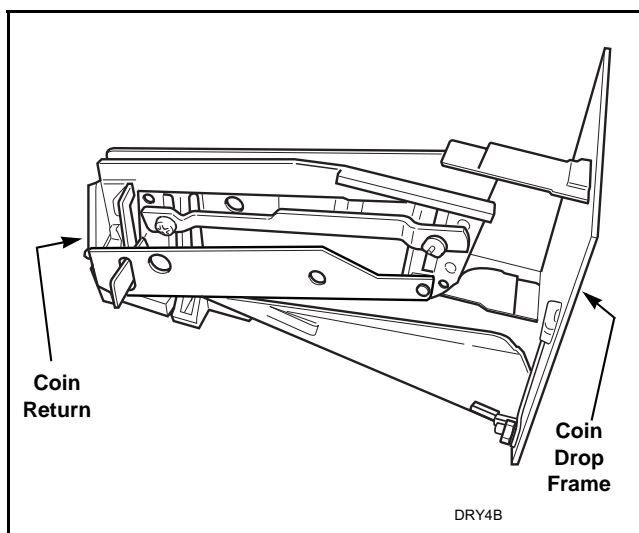

Figure 5
- Remove coin return from coin drop frame. Refer to *Figure 5*.